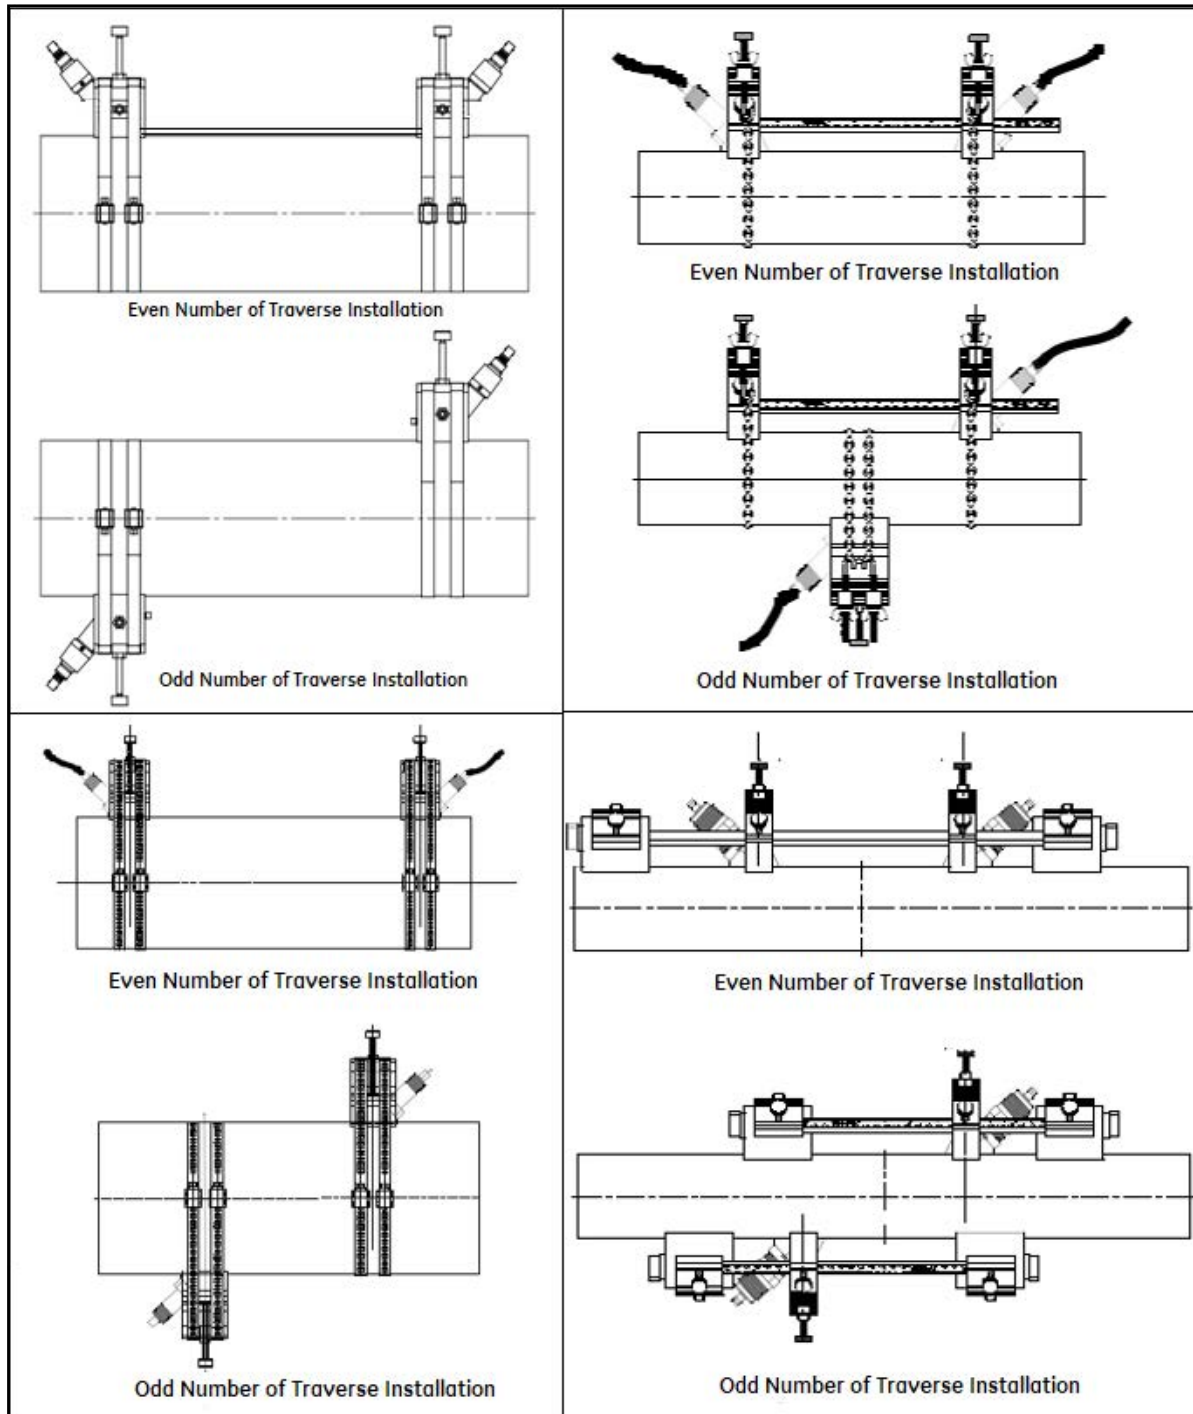

Figure 21: SCF Clamping Fixture (Top Left), UCF Clamping Fixture (Top Right), GCF Clamping Fixture (Bottom Left), MCF Clamping Fixture (Bottom Right)
For any of the fixtures above except for the SPCF, the last step in the installation is mounting the transducers into the clamping fixture. Although not all transducer models are installed the same way, the following information provides some general guidelines to help you. The face of the transducer must be in contact with the pipe because this is where the ultrasonic signal is emitted. All Panametrics transducers include a dimple, depression as it is illustrated in *Figure 21*, drill point or slot on the opposite side of the transducer wedge face, for use as a guide in aligning and securing the transducer. In addition, some transducers have scribe marks on the side to assist in setting the transducer spacing. *Figure 16* below shows an example of the dimple and scribe marks on the transducers.
- Repeat Steps 1-4 to mount the other transducer in the fixed short block. See *Figure 21* below for completed typical clamping fixture installations.